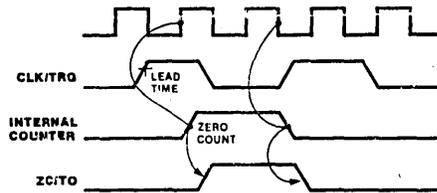

Figure 12. Counter Mode Timing
**Counter Operation.** In the counter mode, the CLK/TRG pulse input decrements the down-counter. The trigger is asynchronous, but the count is synchronized with CLK. For the decrement to occur on the next rising edge of CLK, the trigger edge must precede CLK by a minimum lead time as shown in Figure 12. If the lead time is less than specified, the count is delayed by one clock cycle. The trigger pulse must have a minimum width, and the trigger period must be at least twice the clock period.